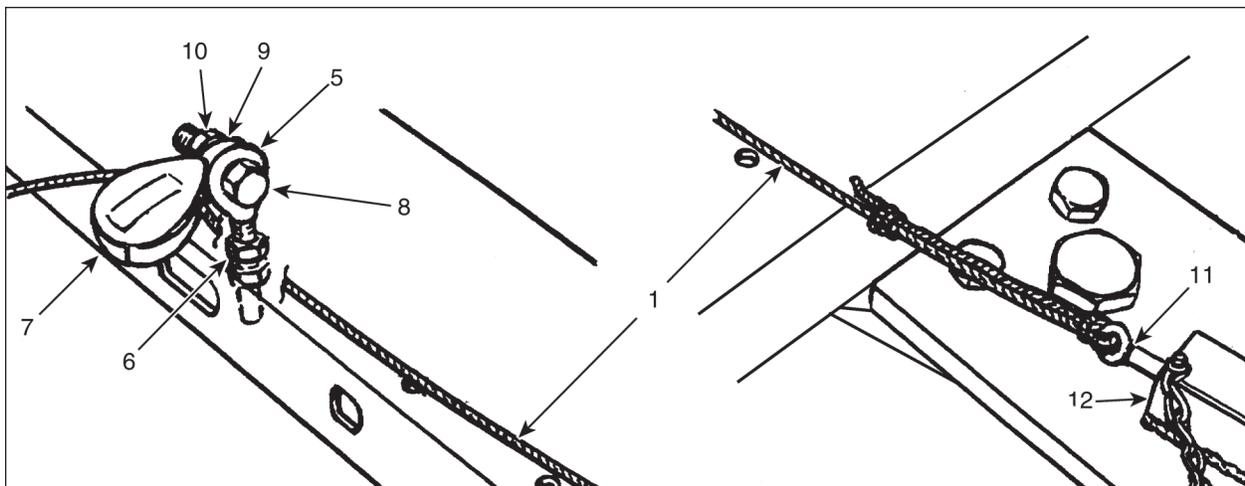

Figure 36
ÉTAPE 3 - FIGURE 36
ÉTAPE 4 - FIGURE 36